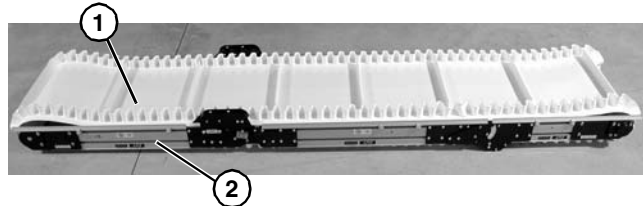

Figure 10
6. Slide belt (**Figure 10, item 1**) over assembled conveyor sections (**Figure 10, item 2**).